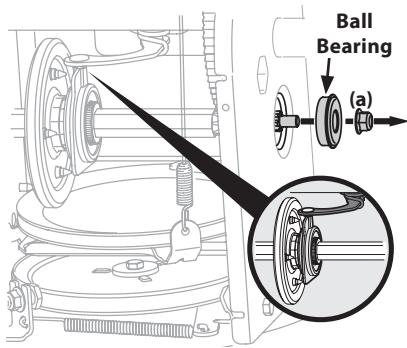

Figure 4-21
5. Carefully remove hex nut (a) which secures hex shaft to frame and lightly tap the shaft's end to dislodge ball bearing from right side of frame. See Figure 4-21.
**NOTE:** Make sure shift lever pin is in place in bearing housing. See Figure 4-21 inset.